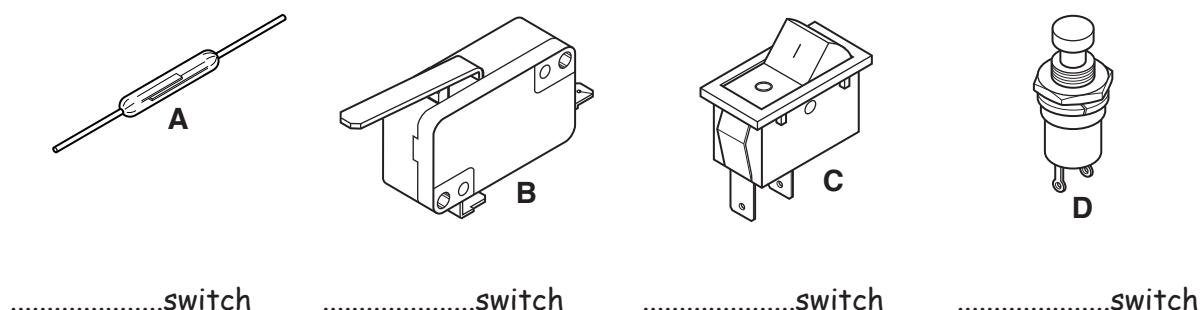

Fig. 12
- 10 (a) Fig. 12 shows four different types of switch.
- (i) Complete the labels on Fig. 12 to identify the types of switch. [4]